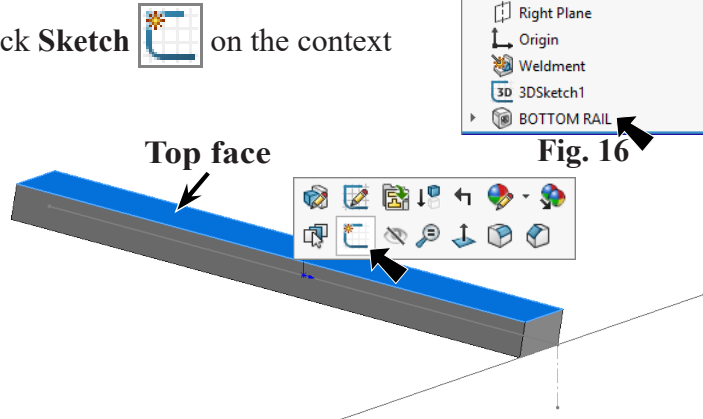
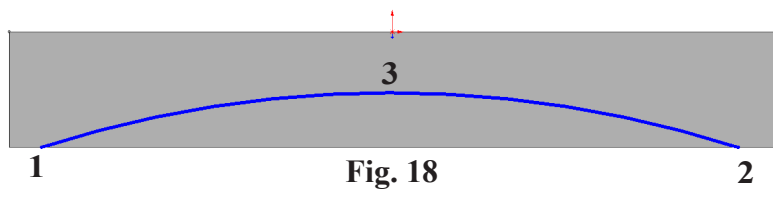

Fig. 17
Fig. 18
Step 1. Click **top face** of the member and click **Sketch**  on the context toolbar, **Fig. 17**.
Step 3. Click **3 Point Arc**  (S) in the **Arc flyout**  on the Sketch toolbar.
Step 4. Sketch 3 Point Arc between Points 1, 2 and 3 across bottom of member, **Fig. 18**.
Step 5. Click **Smart Dimension**  (S) on the Sketch toolbar.